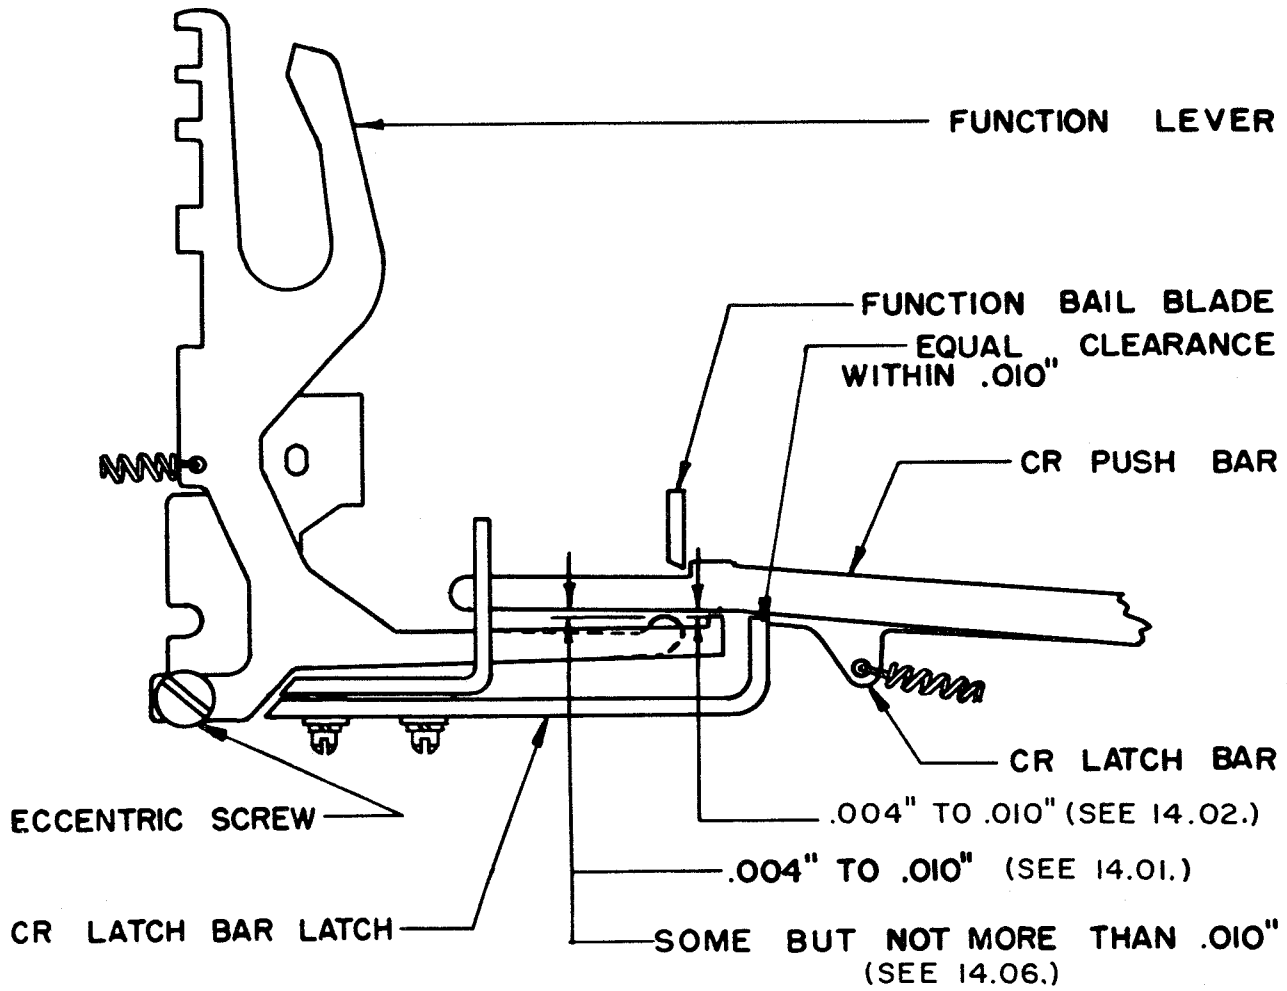
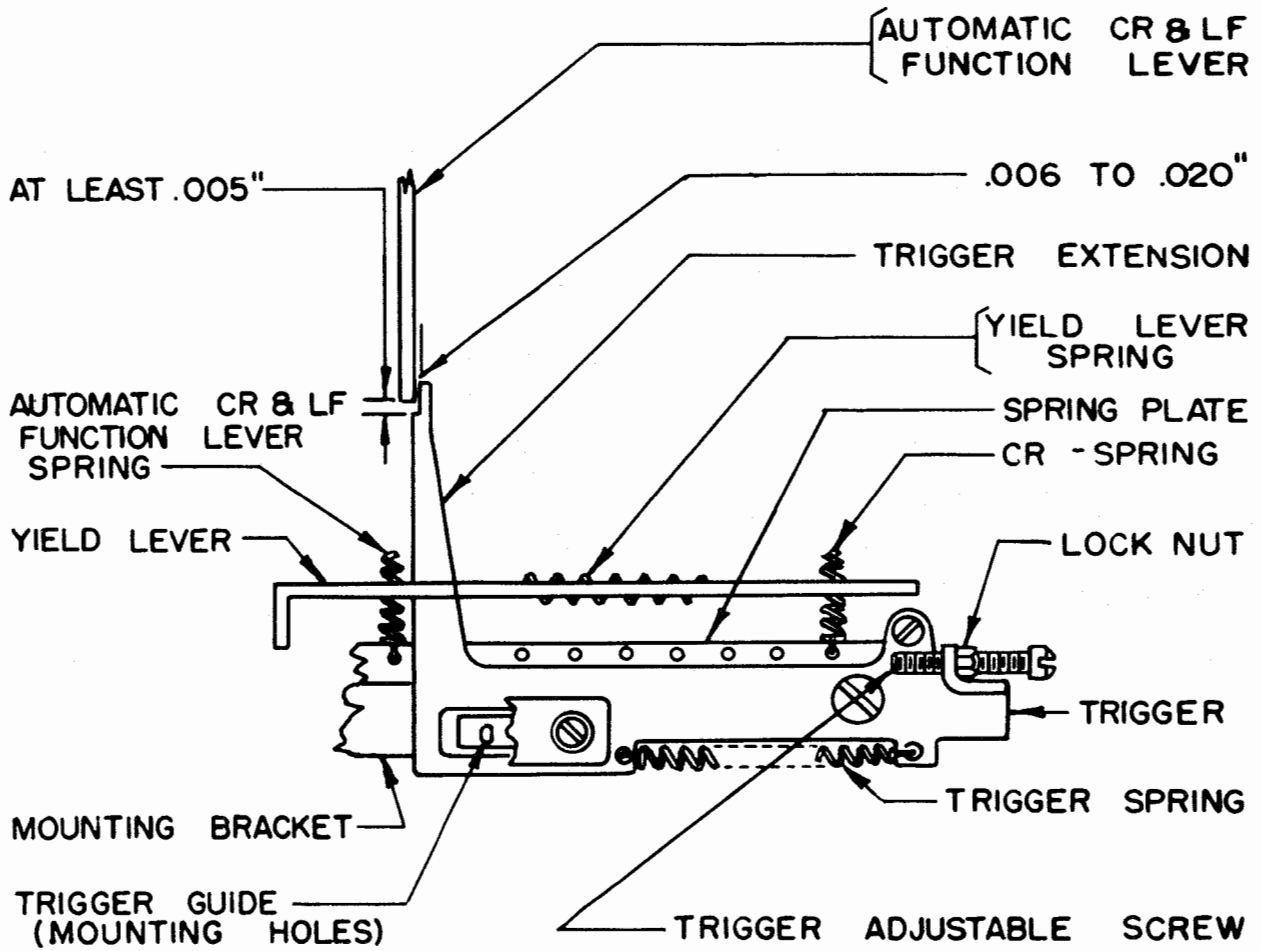

Figure 19
Figure 23
in Figure 23. Set the typing unit on its left side. Rotate the carriage return function lever eccentric so that the high part of the eccentric is away from the casting. With the letter O combination selected and the main shaft rotated until the printing bail is in its extreme forward position, there should be 0.004 inch to 0.010 inch clearance between the carriage-return push bar and the lobe on the carriage-return extension of the bail assembly. When checking this clearance, the shoulder on the carriage-return latch-bar should be fully latched on the latch. See Figure 19.
**14.02 Carriage Return Function Lever Eccentric Screw:** With the letter O combination selected and the main shaft rotated until the printing bail is in its extreme forward position, there should be 0.004 inch to 0.010 inch clearance between the carriage-return push bar and the extension on the carriage-return function lever. When checking this clearance, the shoulder on the carriage-return latch-bar should be fully latched on the latch. See Figure 19.
**14.04 Automatic Carriage-return and Line-feed Function Lever Eccentric Screw:** There should be an equal amount of clearance (within 0.010 inch) between the bottom edge of the carriage-return latch-bar and the latch-bar latch when (1) the carriage-return function lever is fully selected, and (2) the automatic carriage-return and line-feed function lever is fully operated. See Figure 19.
14.06 Trigger Guide: With the letter O combination selected and the main shaft rotated until the printing bail is in its extreme forward position, there should be some clearance, not more than 0.010 inch, between the carriage-return pushbar and the lobe on the carriage-return extension of the bail assembly. See Figures 19 and 23.
To Check: With the main shaft in the stop position, there should be at least 0.005 inch clearance between the blocking edge of the trigger extension and the front edge of the automatic carriage-return and line-feed function lever, when the play is taken up to make this clearance a minimum. See Figure 23.
14.08 Carriage-return Function Lever Spring Tension: With the carriage-return combination fully selected and with the carriage-return function lever resting against the vanes, unhook the carriage-return function lever spring from the spring plate. It should require 9 to 11 pounds to stretch the spring to its position length. See Figure 23.
against the vanes, unhook the automatic carriage-return and line-feed function lever spring from the spring plate. It should require 9 to 11 pounds to stretch the spring to its position length. See Figure 23.
**14.10 Trigger Spring Tension:** Hook a scale over the trigger at the spring hole and pull horizontally in line with the spring. It should require a pull of 3-1/2 to 5 ounces to just start the trigger moving. See Figure 23.